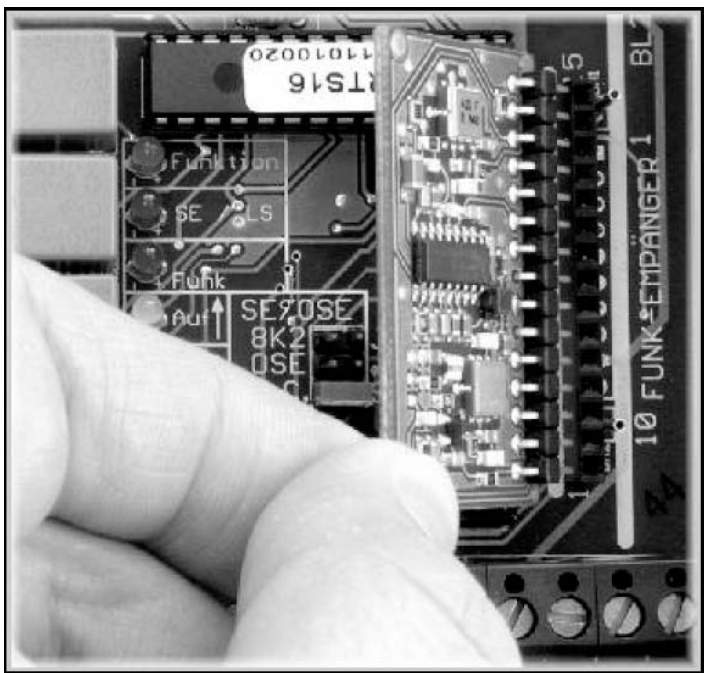

Fig. 9
- Connect a radio module with the required frequency to socket "BL 1". (Fig. 9)
- Disconnect the radio module carefully from the connection socket "BL 1" (Fig. 9).